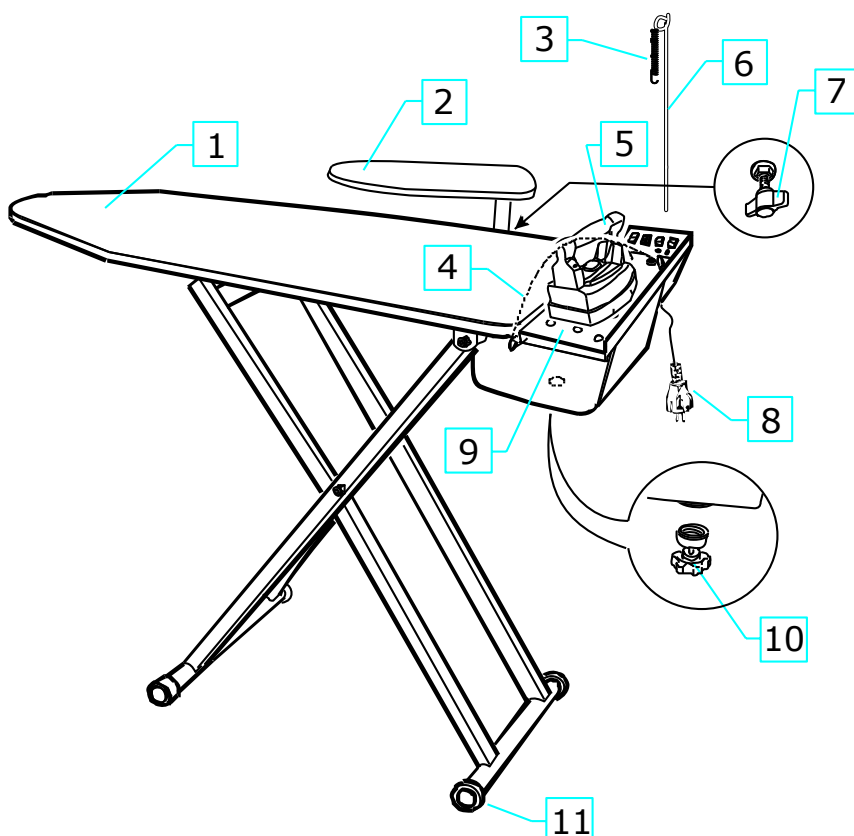

Fig. 1
2. Remove SOLE M from the box and insert the IRON cable support deep into the special hole (fig. 1).
4. Place the iron on the rubber iron rest supplied with the machine (fig. 1).
3. During ironing, always put the iron on its rubber rest (fig. 1)